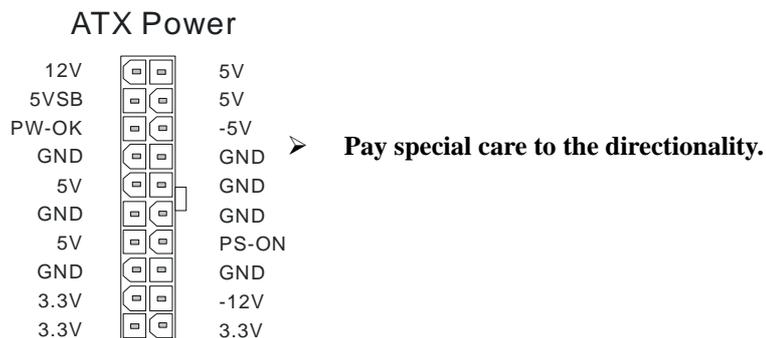

FIG. 1
1. Connect the 20 pin connector to the ATX power connector. See FIG. 1.